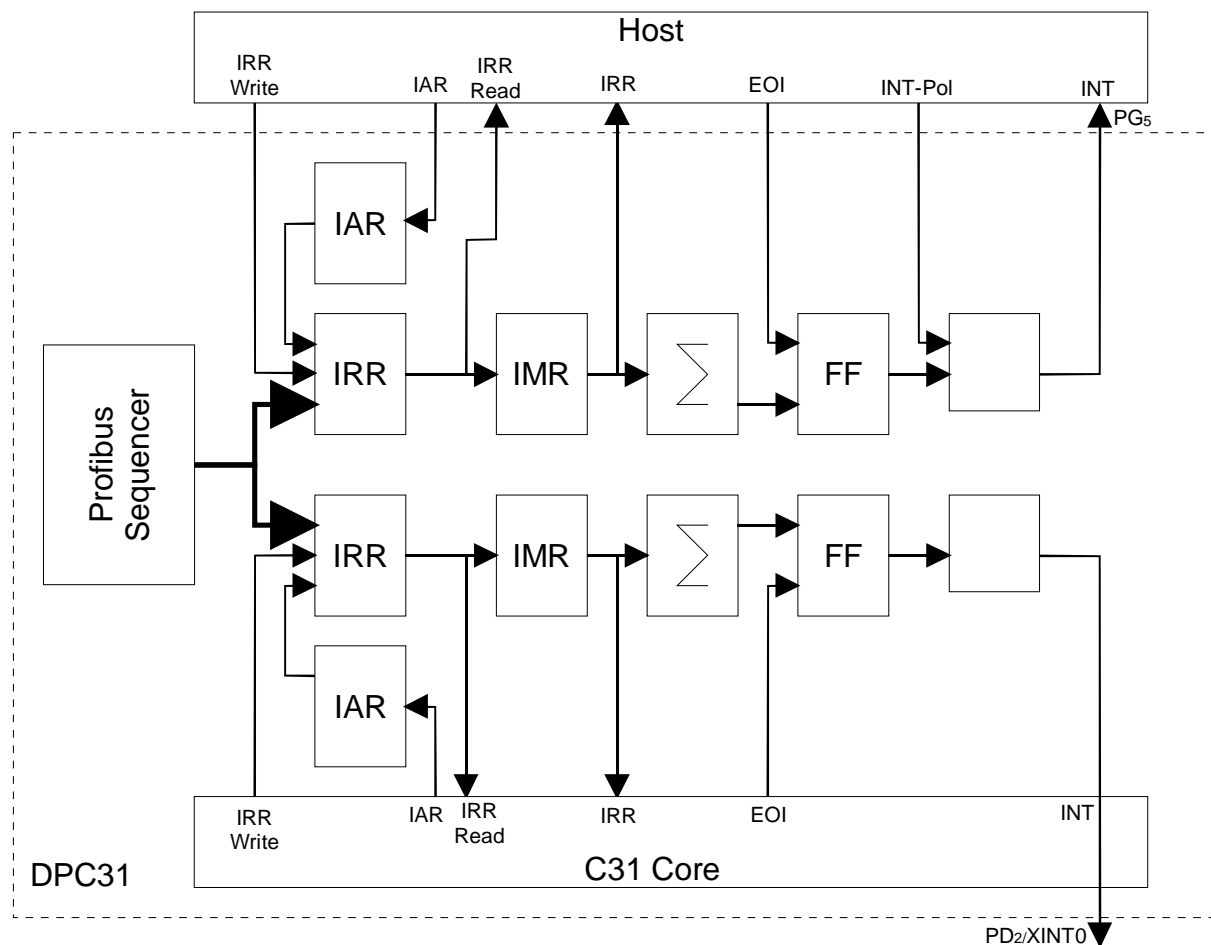

Figure 7.1-6: Interrupt Controller of the μ P Interface and C31 Core in the DPC31
It consists of the following: an interrupt request register (IRR), interrupt mask register (IMR), interrupt register (IR) and an interrupt acknowledge register (IAR). The structure is shown in Figure 7.1-6.